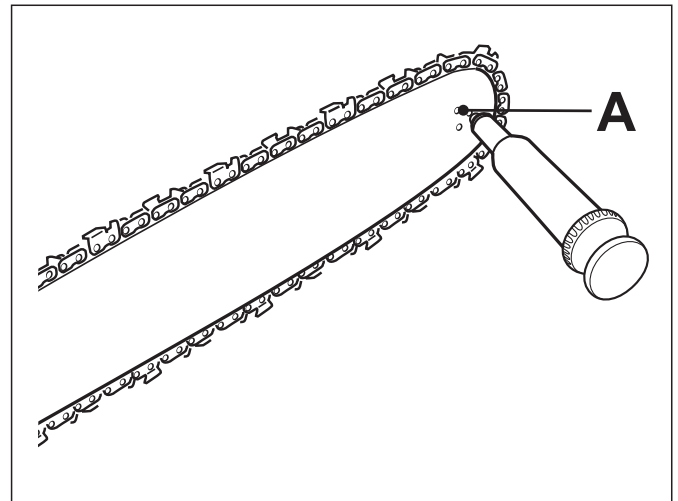

Fig. 31
2. Using a disposable lube gun, insert the needle nose into the lubrication hole and inject grease until it appears at the outside edge of the sprocket (Fig.31).